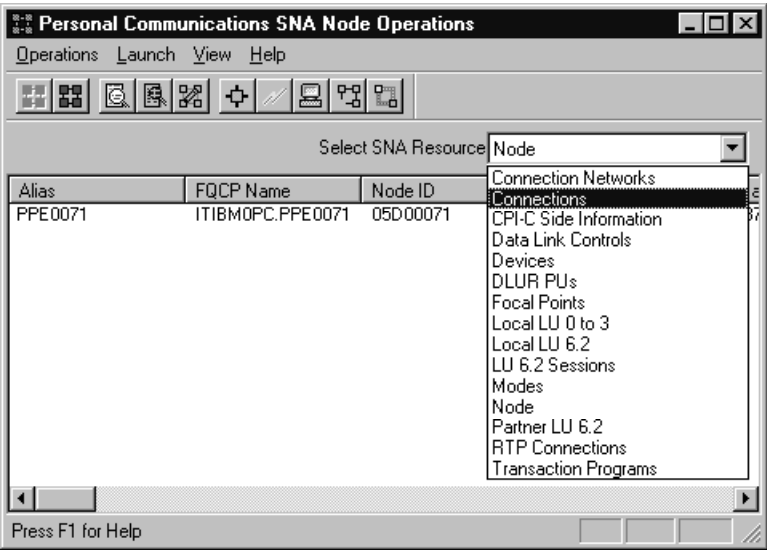

Figure 116. Node characteristics connections selection
- 4 Select **Connections** from the Select SNA Resource list box as shown in Figure 116 on page 195.